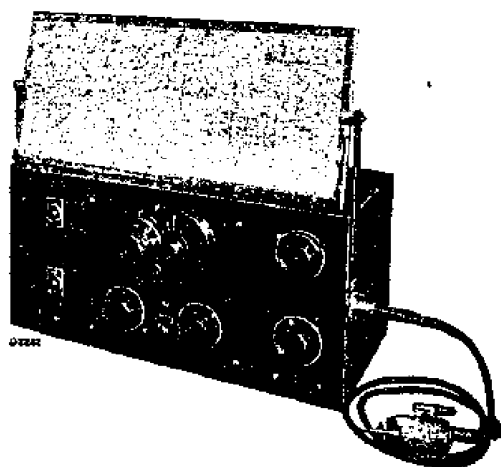

Fig. 1.
1. Service oscillator GM2880 (fig. 1).